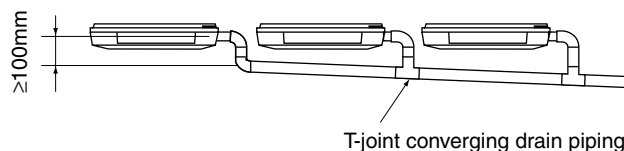

Fig. 29
- Do not twist or bend the drain hose (1), so that excessive force is not applied to it, as this could cause leaks.
- If converging multiple drain piping, install according to the procedure shown below. (Refer to Fig. 29)